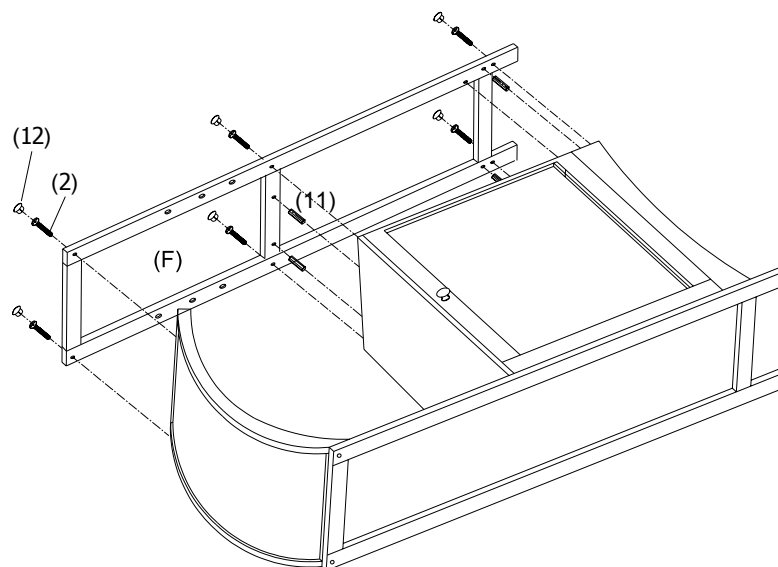

FIGURE 3
6. REPEAT STEP 4 TO ASSEMBLE RIGHT SIDE PANEL (F). (AS SHOWN IN FIGURE 3)